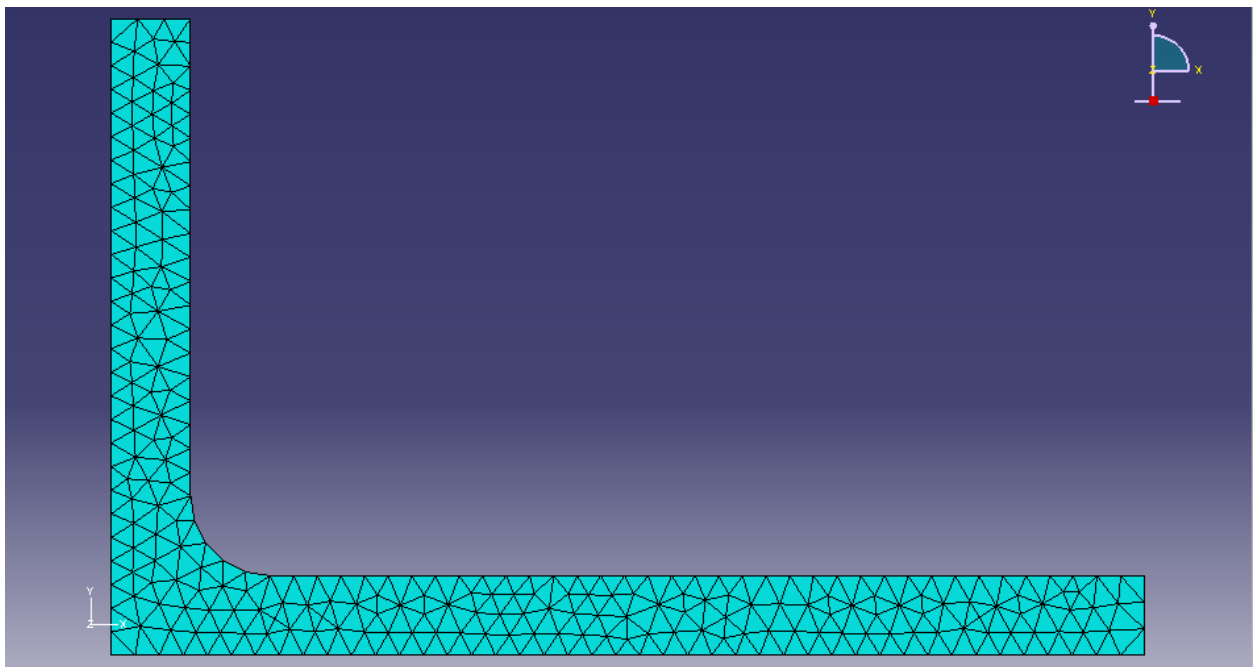

Figure 15
- Under Mesh select part and configure that it is ok to mesh the part. The mesh is shown in Figure 15.